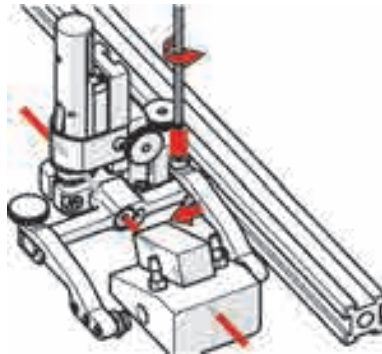

Figure 4-53 Adjust inner arm
1. Position the wedge on the inner probe holder arm (see Figure 4-53 on page 136).